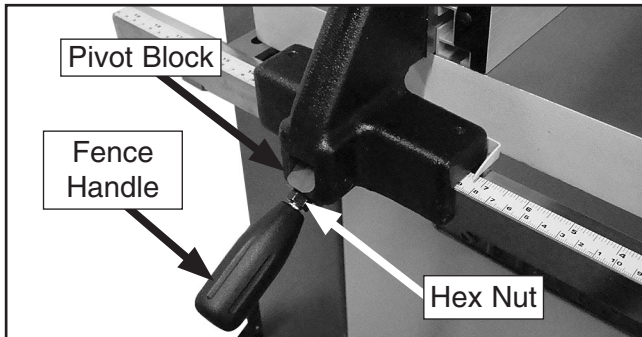

Figure 4. Fence handle components.
3. Thread the fence handle into the fence, then tighten the hex nut against the fence pivot block (see **Figure 4**).